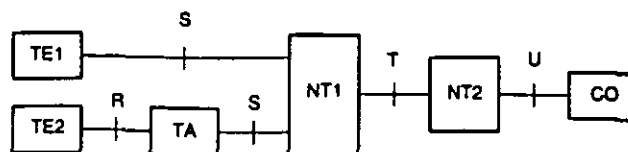

Figure 1
Customer premises equipment in an ISDN falls into two categories: terminal equipment (TE) and network termination (NT) as shown in Figure 1. Two basic types of terminal equipment are defined: terminal equipment type 1 (TE1) complies with ISDN recommendations and is equipped with a standard ISDN physical interface; terminal equipment type 2 (TE2) requires an external adapter (TA) for compliance with ISDN recommendations and physical interface. Network terminations (NT) may take different forms depending on the network in place and are also split into two categories. Network termination 1 (NT1) performs the physical connection between the premises network and the off-premises equipment (such as a central office). It performs such functions as signal conversion (4-wire to 2-wire) and maintenance of the loop's electrical characteristics. Network termination 2 (NT2) is responsible for the user's side of the connection to the network and performs higher level functions such as concentration and switching (for example, a PBX or LAN).